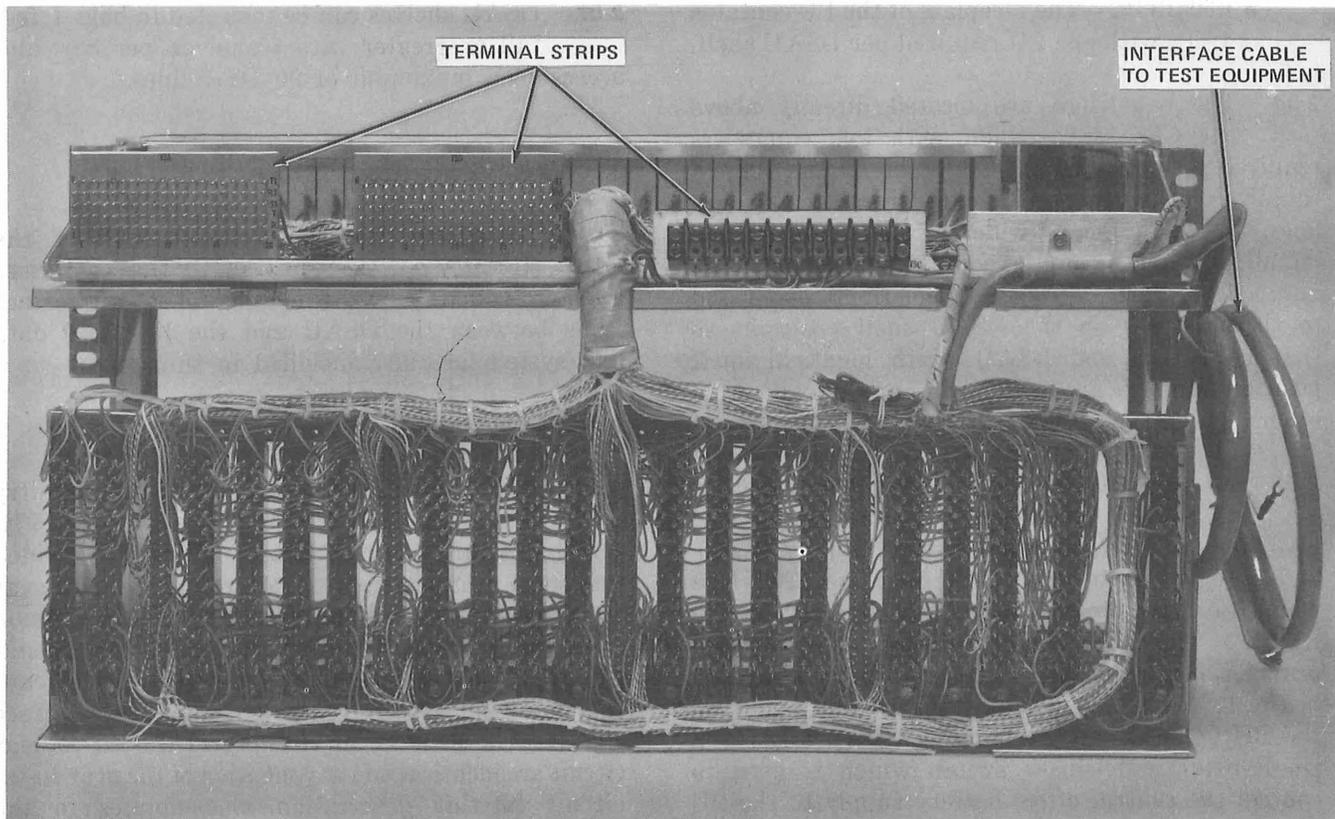

Fig. 3—Rear View of a DSAU Shelf Assembly
2.06 The rear of the DSAU shelf (Fig. 3) contains the following items: